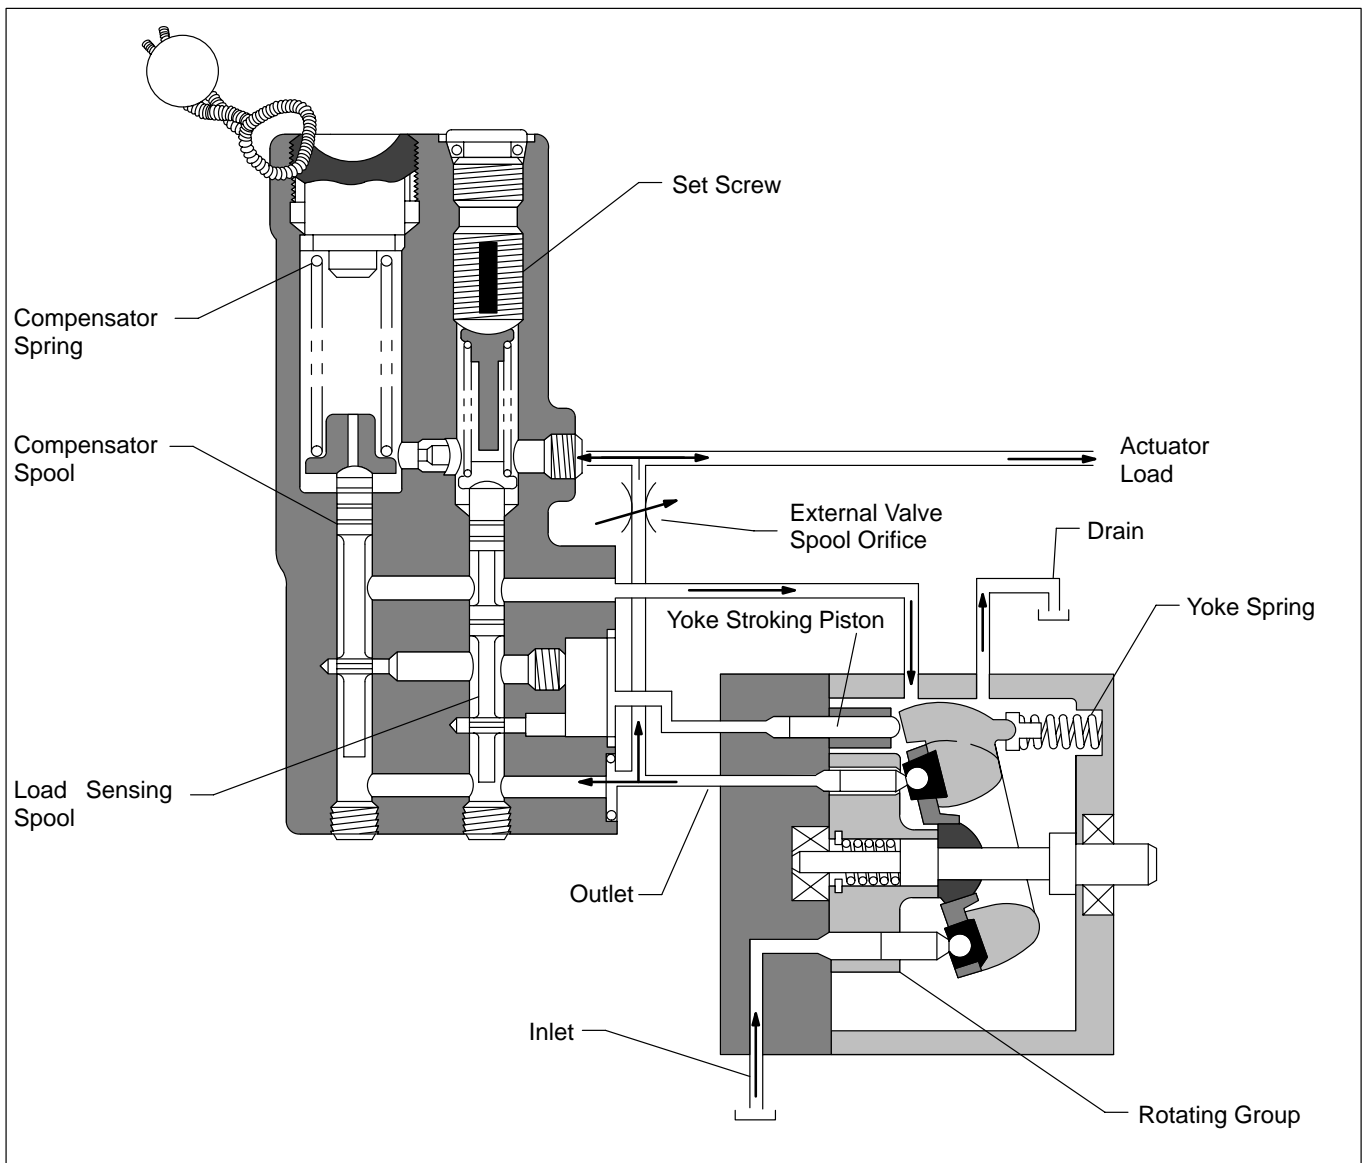

Figure 5. Load Sensing Pressure Limiting Compensator (CVP, CVPC, CVPD)
1. Compensator (C), (Flat Cut-Off Type): A pump using this compensator will maintain a constant load pressure for all values of flow within the capacity of the pump.
2. Compensator (CG), (Remote Control Type): This compensator is similar to the “C” type compensator except the compensator is controlled by a remote hydraulic source such as a relief valve.
3. Compensator (CV), (Load Sensing Type): A load sensing compensator provides flow at a pressure equal to that required by the load plus a constant value used as a pressure drop across a metering valve. The pump will change its flow with changes in size of the metering valve orifice. The pump and compensator together provide a constant flow source for the load, at a pressure established by the requirements of the load, hence the title “Load Sensing”.
4. Compensator (CVP), (Load Sensing Pressure Limiting Type): The CVP control is a combination of the standard flat cut-off compensator (C) and the load sensing compensator (CV). The load sensing compensator controls flow to the load across an external valve orifice. If pressure build-up exceeds the flat cut-off compensator setting, the flat cut-off compensator overrides the load sensing compensator and lowers the flow to prevent excessive pressure build-up at the pump.
5. Compensator (CVPC), (Load Sensing Pressure Limiting Type): This compensator is the same as the “CVP” compensator except the load sensing spring is heavier. The heavier spring provides a slightly higher pressure differential (160 Δ P vs. 350 Δ P) across the external valve orifice. See Figure 5.
The load sensing portion functions at pressures below the flat cut-off compensator setting and provides a constant flow characteristic. If pressure exceeds the flat cut-off compensator setting, the yoke will stroke to zero flow at maximum pressure lowering the horsepower requirements for holding circuits and protecting the pump. Refer to Figure 5 throughout the following circuit explanation.
The small fixed orifice located in the compensator body provides a decompression feature for the load circuit during standby operation. The decompression feature allows the pump to stroke to zero flow and minimum pressure (ΔP), if the load is blocked and the external valve spool orifice is closed. (Refer to Figure 5.)